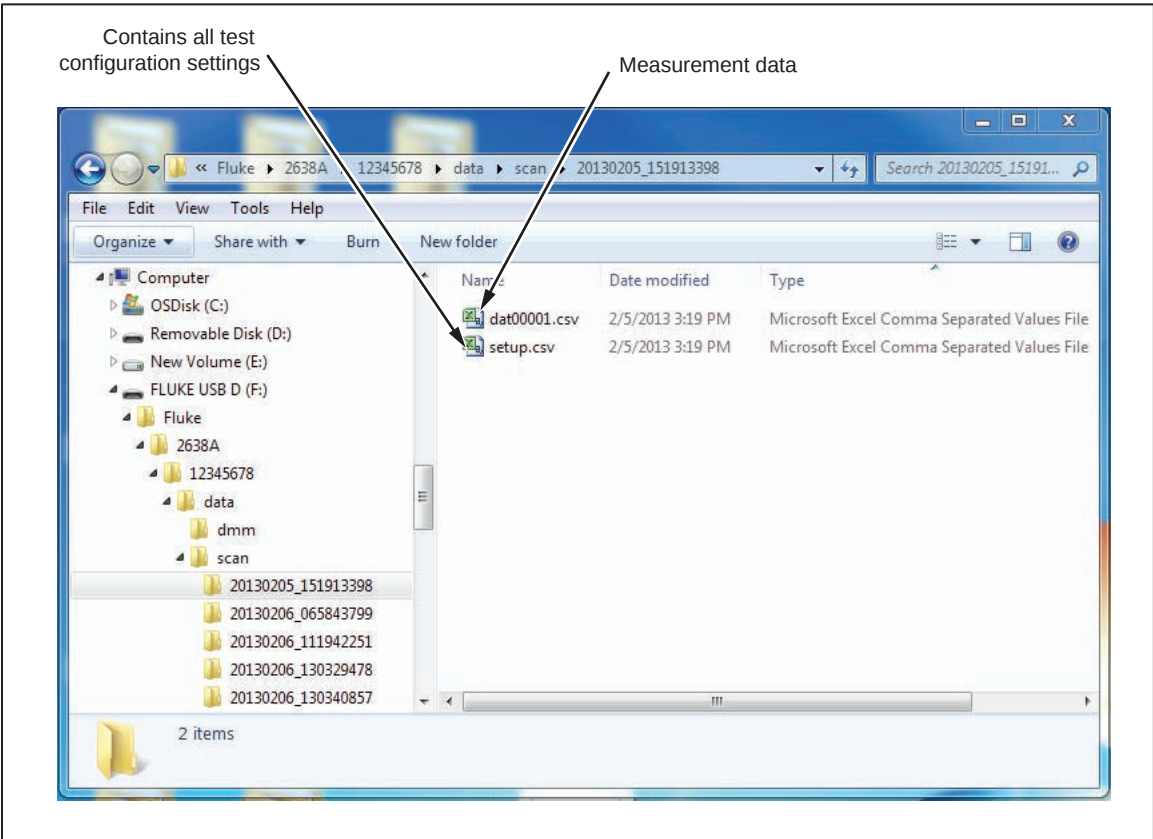

Figure 4-8. Setup.csv and Dat00001.csv Files
5. Navigate to the data folder as follows (see Figure 4-8 for an example of the folder structure):
6. Choose a file to open then double-click on the file. The time-stamped data folder contains two comma-separated values (.csv) files: **setup.csv** and **dat00001.csv**. The setup.csv file contains all the test parameters that were configured when the data was recorded. The dat00001.csv contains all of the recorded measurement data. See Figure 4-8.